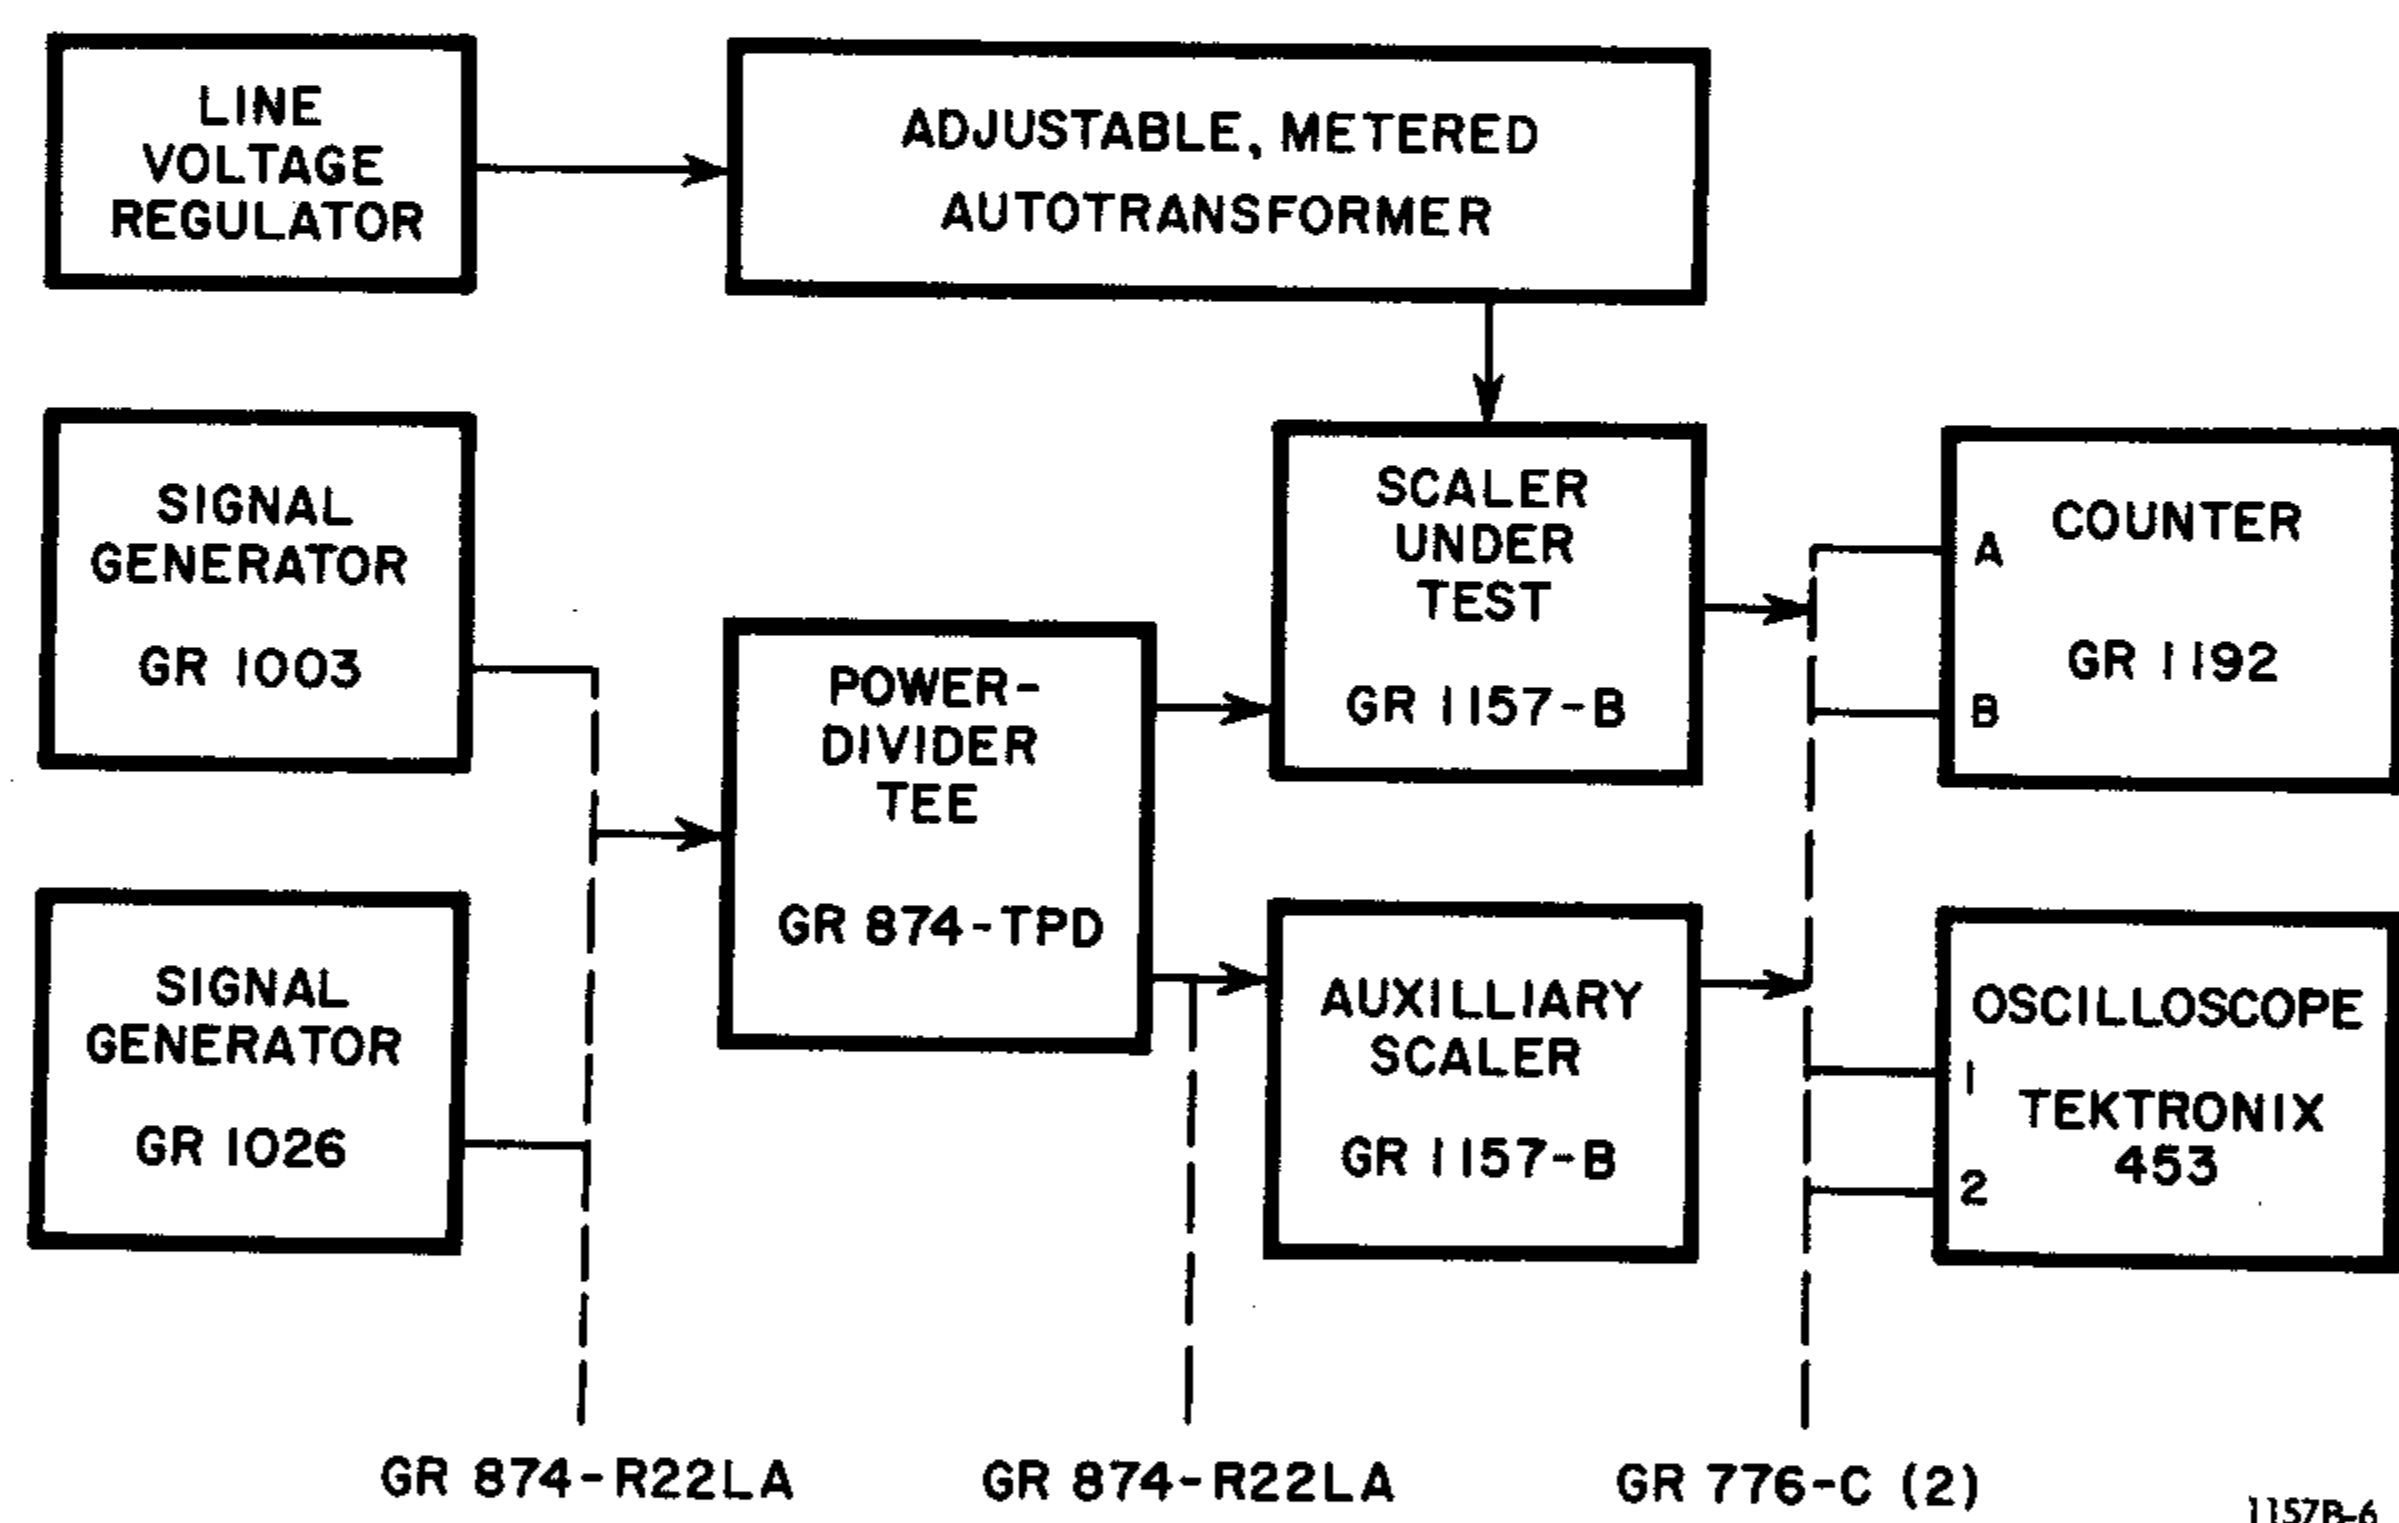

Figure 5-1. Generalized test setup.
5.2.1 General. Figure 5-1.
The test setup is shown in Figure 5-1. Recommended test equipment is listed in Table 5-1. The requirements given are significant ones, but may not be a complete and